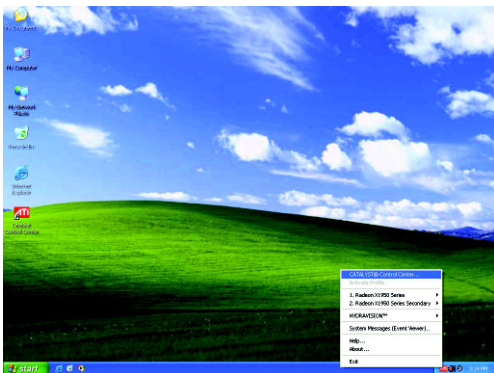
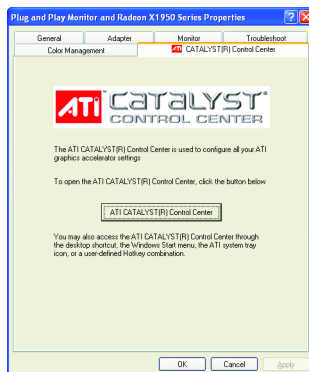

Fig. 1
Fig. 2
After installation of the display drivers, you will find an **ATI CATALYST® Control Center** icon  on the taskbar's status area. The **ATI CATALYST® Control Center** is used to configure all your graphics card settings. Right-click the icon to enter the **ATI CATALYST® Control Center** (refer to Fig. 1). Or you can right-click on the desktop to select Properties>Settings>Advanced>ATI CATALYST(R) Control Center tab and press **ATI CATALYST(R) Control Center** button (refer to Fig. 2).